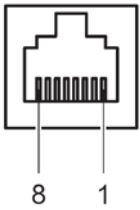

Figure 4 – Connector for Transmitter (RJ45)
- B Connection for transmitter (🔗📖 Figure 4, page 13)
The connector Input (🔗📖 Figure 3 A, page 12 and Figure 4, page 13) is designed for the connection of a transmitter (🔗📖 Chapter 3.2 Applicable Transmitter, page 7). For the measuring channel an 8-pole RJ45 socket is available.